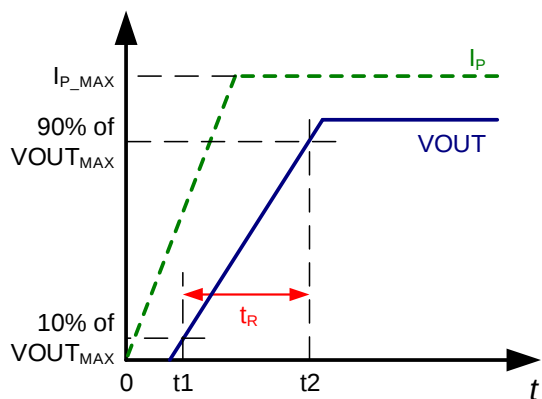

Figure 7: Rise Time (t_R)
- t2: The sensor's V_{OUT} reaches 90% of its full scale value (see Figure 7).